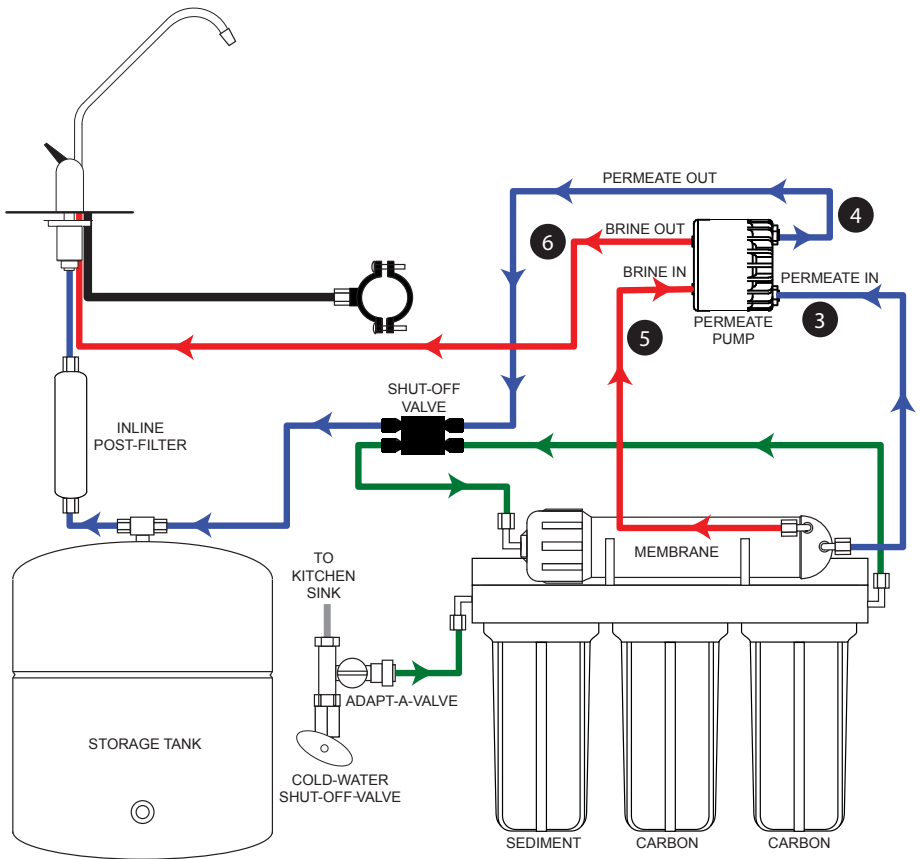

Figure 1: Standard System after installation of Permeate Pump
- Step 7 - Make sure your installation matches the diagram shown in Figure 1